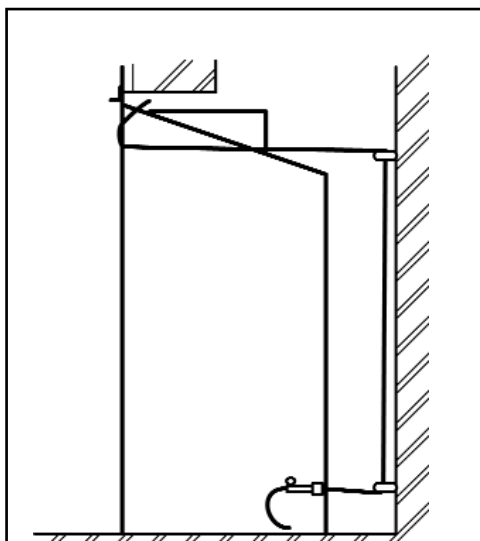

Figure 20. Cable route
6. Thread the cables through the eyebolts. Return the cables through the holes near the bottom of the hotbox back panel (See figure 20).